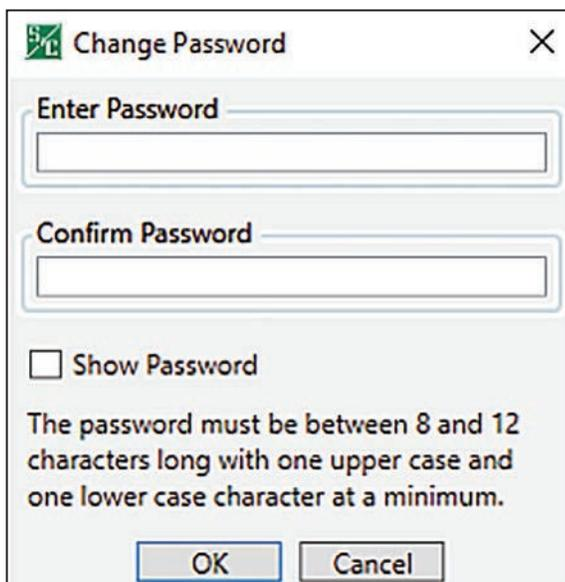

Figure 34. The Change Password dialog box.
- STEP 2.** Enter a new non-default password that meets the complexity requirements into the **Enter Password** and **Confirm Password** fields. Then, click on the **OK** button. See Figure 34.